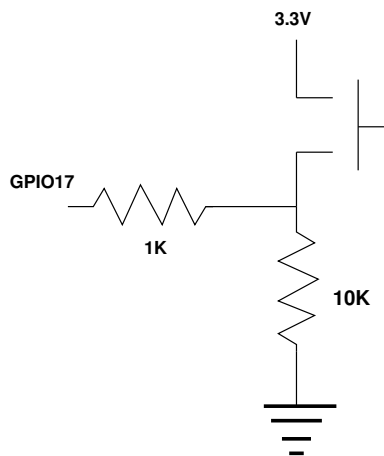

Figure 3: Switch connected to GPIO.
- Connect GPIO17 to a switch as shown in Figure 3. If you do not have a switch, you can instead just use a piece of wire connected to 3.3V and touch the other end to the proper pin.